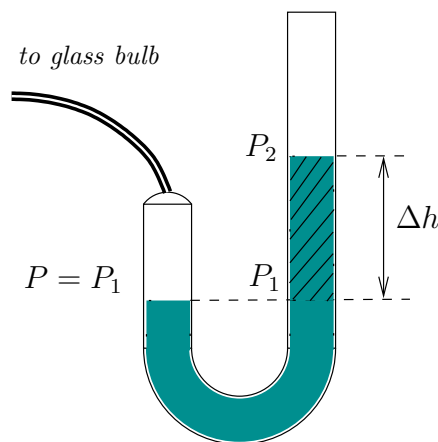

Figure 8.2: Measured pressure difference in oil manometer.
Step 2: We can now use the same Newton's second law step-by-step approach that you learned in your problem session to obtain an expression for P_{oil} . Consider the volume of oil cross-hatched in Figure 8.2. Assume that the cross-sectional area of the U-tube is A . Draw a force diagram for this section of oil in this equilibrium state. Be sure to label all the forces.